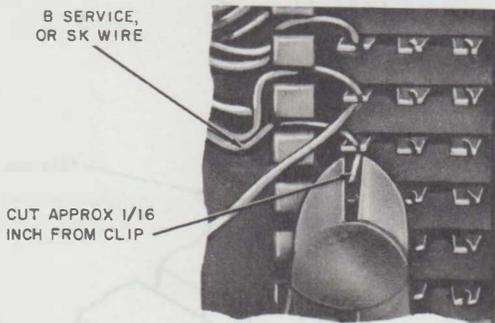

Fig. 7—Cutting B Service or SK Station Wire
- (a) Perform Steps (1), (2), and (3) of 3.05.
- (b) Cut the wire with diagonal pliers, allowing for approximately 1/16-inch of wire to protrude through terminal (Fig. 7).